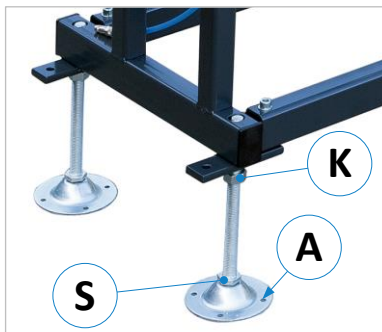
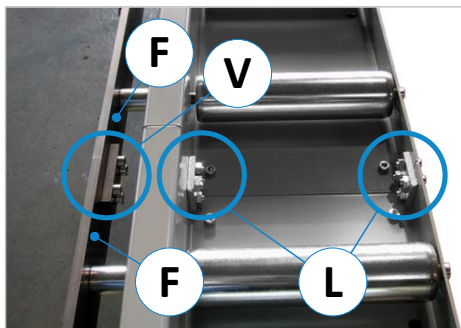

Figure 4: Levelling feet
Figure 5: Connecting flat bar and segments
- Afterwards the delivered roller & measuring conveyoy segments must be connected to each other on the front and rear side with the two connecting lugs (L) by screwing them together (see ⇒ Figure 5).
- Screw the vertically mounted guide flat bars (F) of the roller & measuring conveyoy tightly together with the screwed-on connecting bracket (V), see ⇒ Figure 5.
- When attaching the connecting bracket (V), make sure that the flat bars are exactly flush with each other → The air gap between the flat bars should be as small as possible.
When all parts are assembled and aligned to the machine, anchor the roller & measuring conveyoy to the floor via the four holes (A) in the foot plates with heavy duty dowels (see ⇒ Figure 4).